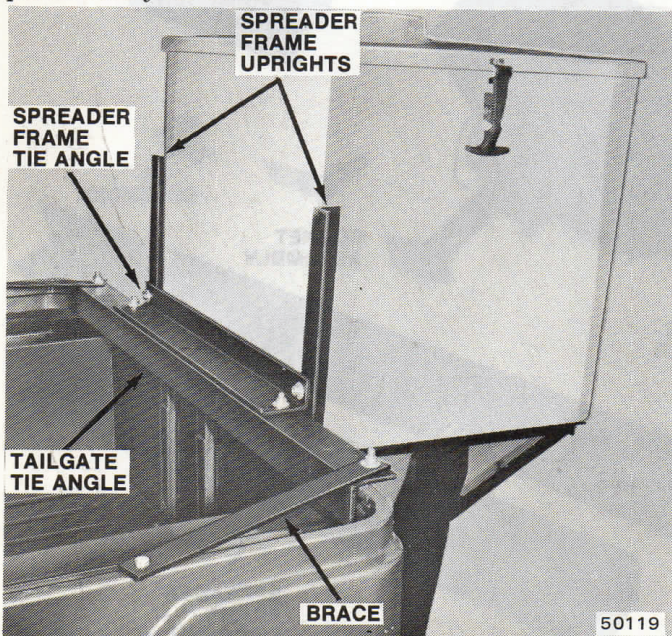

Fig. 4-3 Spreader Mounting Components
- (1) Locate center of tailgate and scribe a chalk mark as a guide for centering spreader.
- (2) Position tailgate tie angle on tailgate (fig. 4-2). Position spreader frame tie angle on tailgate tie angle and secure with 3/8 x 1-1/4 carriage bolts, flat washers, and locknuts (fig. 4-3).
- (3) Attach braces to tailgate tie angles with 3/8 x 1-1/4 carriage bolts, washers, and locknuts.